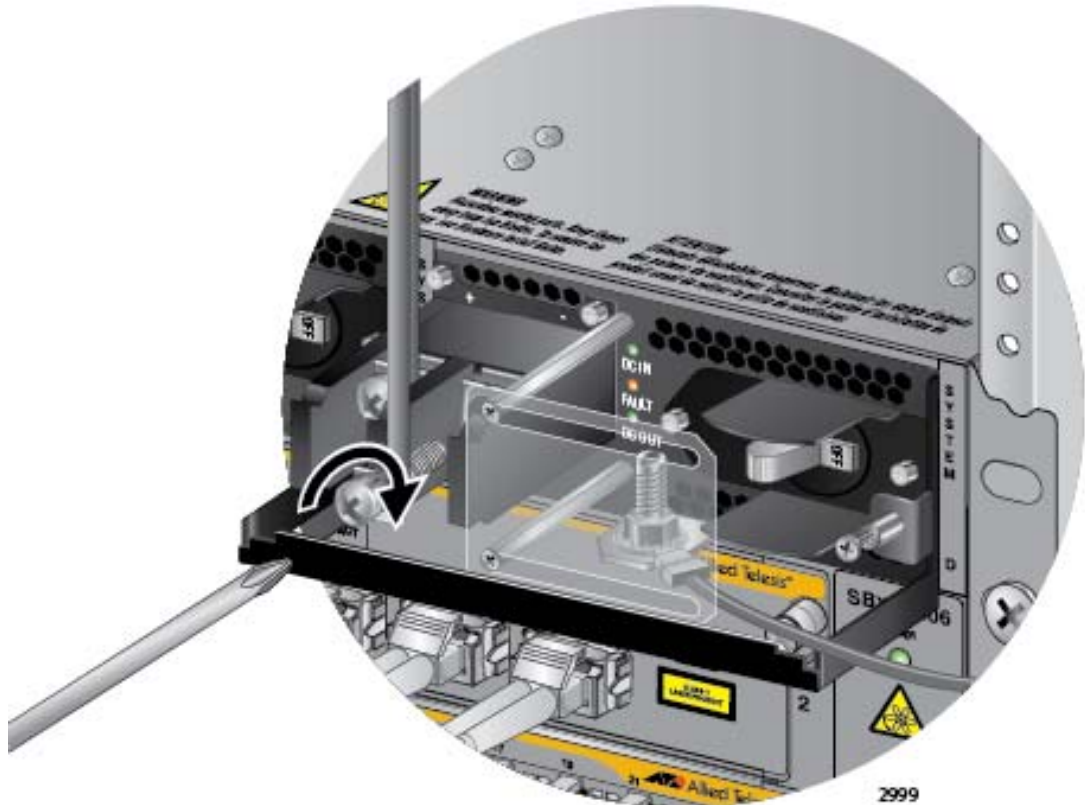

Figure 141. Connecting the Negative Lead Wire
5. Wrap the negative lead wire clockwise around the remaining terminal screw and secure the screw and wire to the negative terminal connection on the terminal block with a #3 Phillips-head screwdriver, as shown in Figure 141 on page 207. The negative terminal is on the right.